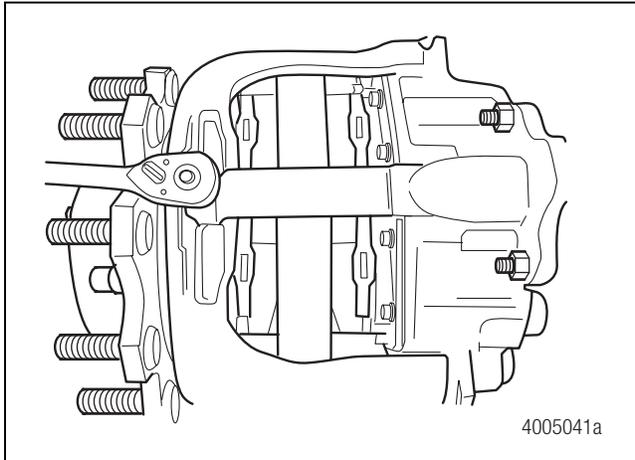

Figure 4.17
4. Install the pad retainer and pad retainer bolt. Tighten the bolt to 25-30 lb-ft (34-40 N•m). Figure 4.17.